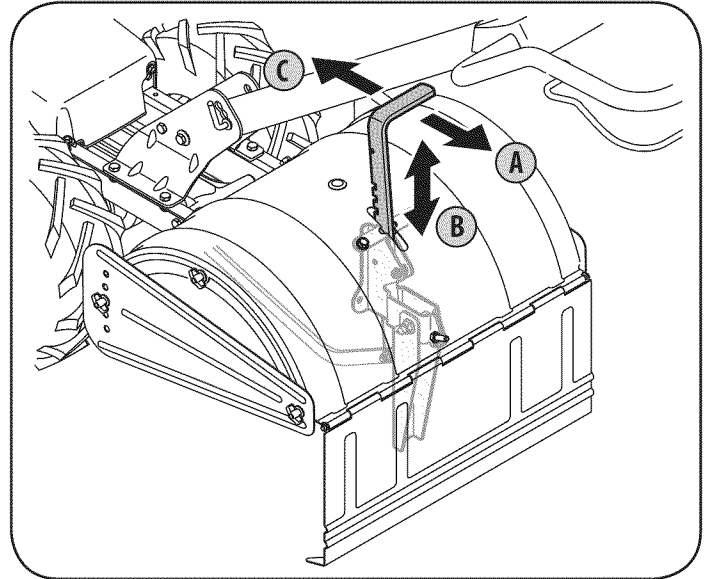

Figure 9
To adjust the depth stake, pull back on the depth adjustment bracket (A) and push up or down (B) until the bracket reaches the desired position, then release the bracket (C). See Figure 9.